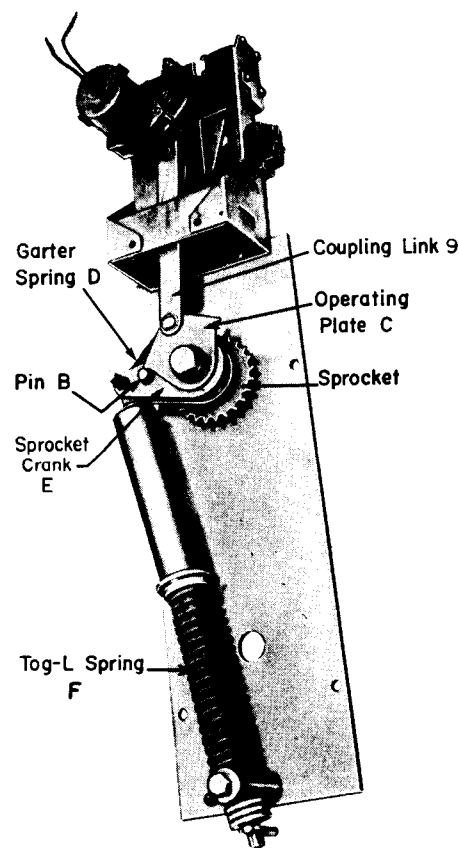

Fig. 5
Referring to Fig. 5, the motor charging attachment is coupled to operating plate (C) of the stored energy operator. When the motor operates, the coupling link (9) drives plate (C) which in turn drives sprocket crank (E) via pin (B) counterclockwise, thus performing electrically the same function as the manually-operated mechanism described on page 2. Note that garter spring (D) has been encircled around the motor coupling. Its purpose is to spring bias the coupling link, thus allowing the motor to always run in the same direction, regardless of which direction the Tog-L spring is to be charged.
This mechanism may still be operated manually with the front handle (see page 2), except the chain drives the sprocket crank (E). In this case, however, the operating handle itself is spring biased to a free wheeling position and must be clutch engaged if manual operation is desired. The manual handle in this case always incorporates a safety switch which de-energizes the motor control circuit when the manual handle is engaged. Note that if the Tog-L spring in Fig. 5 is manually operated, there will be no movement of the motor mechanism, but the garter spring will automatically bias the coupling link and operating plate in the opposite direction.
Refer to Figs. 1 and 2 below, and Fig. 5, - page 9.